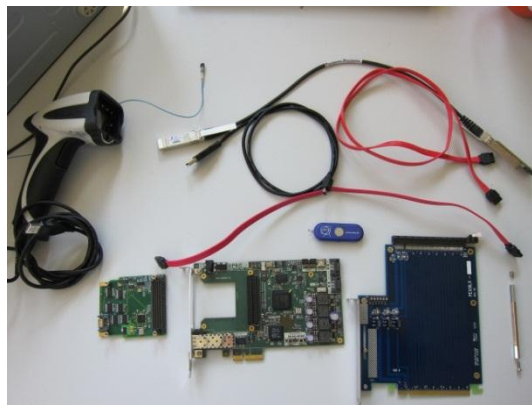

Figure 4: provided materials
- 1) Confirm that the computer is switched off and plug the PCI Extender board into the slot indicated in Figure 4. It is recommended to use the provided metal stick and the screws to fix the PCI Extender into the computer box.
- 2) Place the barcode sticker of the SPEC board under test on the position indicated in yellow by Figure 4. The sticker should be placed with the barcode next to the edge.